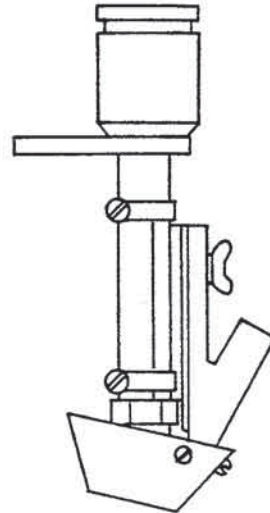

Figure 4
2. Position the stationary member as shown in Figure 4 and then tighten the hose clamps.
4. Since the tips and the wire come out of the nozzle at 7°, there will be some occasions where the cone will have to be tilted as shown. Provisions have been made to accomplish this by removing the furthestmost screw from the tip on each side of the cone, then tilting the cone and putting the two screws back into the rear holes of the cone. Retighten all four screws. See Figure 4.